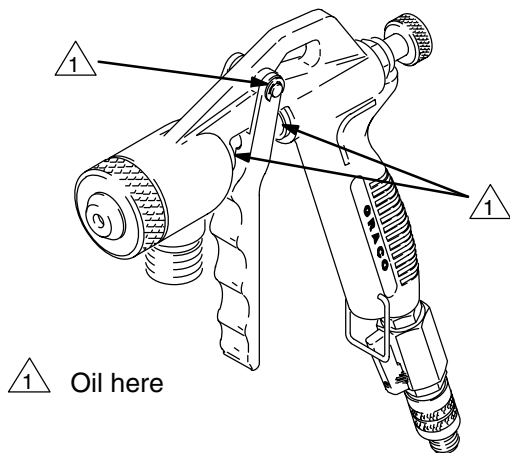

Fig. 15 0631
- Oil the gun daily. See Fig. 15.
11. Remove the air filter (K). Wash it thoroughly with soap and water, and reinstall it.
12. Clean and dry the gun. Oil the gun daily with a few drops of SAE-10 light oil at the points indicated in Fig. 15.
- a. Open the drain cock valve (S).
- b. Turn the ON/OFF switch (D) ON.
- d. Turn the ON/OFF switch (D) OFF.
- e. Close the drain cock valve (S).